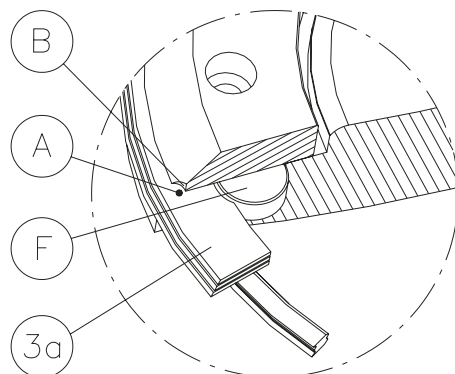
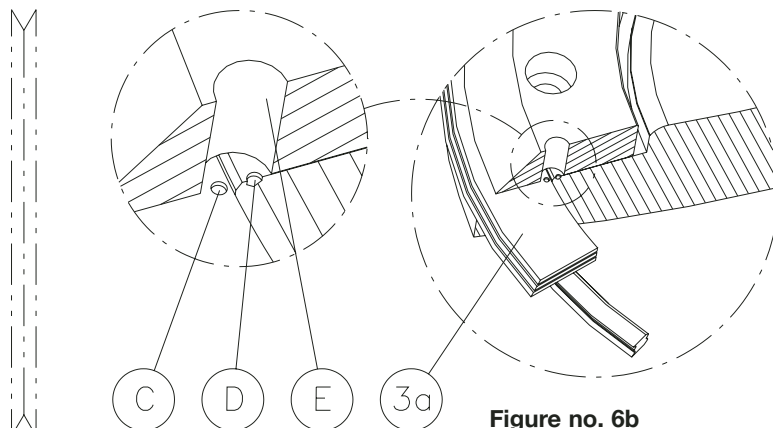

Figure no. 6a
Figure no. 6b
- solution 1 - ref. to figure no. 6a - align the internal slot of the seal ring (3a) to the reference pin (F).
- solution 2 - ref. to figure no. 6b - align the reference mark (C) on the seal ring (3a) with the relevant reference mark (D) on the disc.
- solution 1 - ref. to figure no. 6a: make sure that the slot on the edge of the seal retainer ring (B) is in correspondence with reference pin (F).
- solution 2 - ref. to figure no. 6b: ensure to locate the hole (E) of the seal retainer ring with the relevant marks on the disc (D) and seal ring (C).
- 17 Open the disc a few degrees and tighten, using a torque wrench, all screws (2c). Use a torque value from Table III for valves according to solution 1 (ref. to figure no. 6a). Use instead a torque value from Table II for valves according to solution 2 (ref. to figure no. 6b).
• **Solution 1- ref. to figure no. 6a:**
• **Solution 2 - ref. to figure no. 6b:**